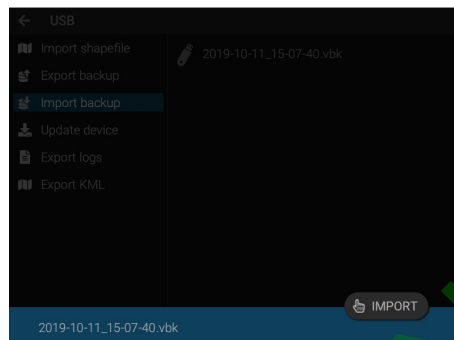
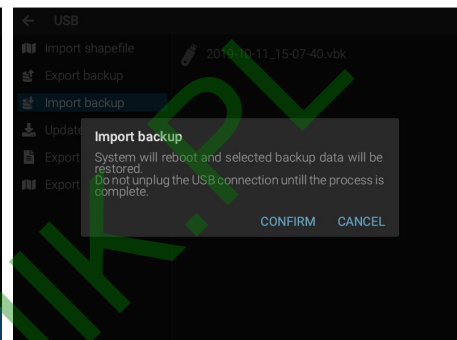

Fig. 104
Fig. 105
- Select the file: the monitor displays the name of the selected file (Fig. 104).
- Press **IMPORT** (Fig. 104) and then **CONFIRM** (Fig. 105).